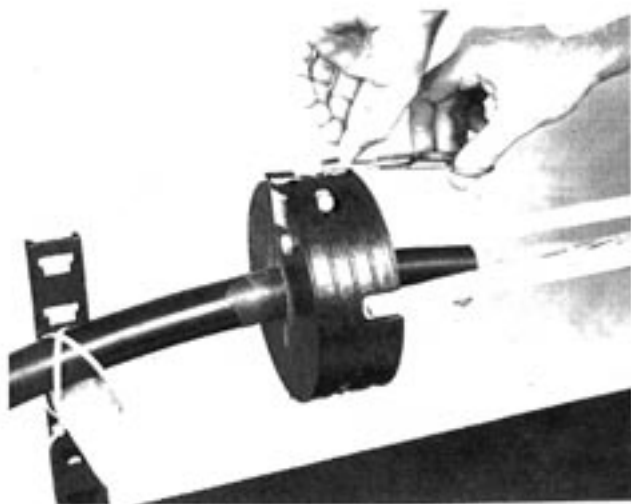

Figure 25 — Trimming the LOCK-TAPE™ Sealant
9.08 When End Plates are completely together trim the excess LOCK-TAPE™ Sealant with snips to approximately 1/4" (.62cm) of the End Plate. Do not pull the tape when trimming. (Figure 25)